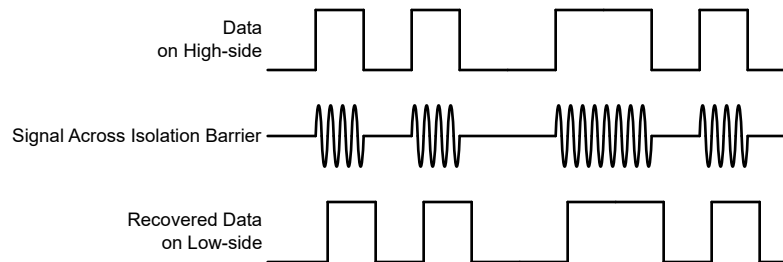

Figure 6-4. OOK-Based Modulation Scheme
The AMC21C12 uses an on-off keying (OOK) modulation scheme, as shown in Figure 6-4, to transmit the comparator output states across the SiO₂-based isolation barrier. The transmit driver (TX) shown in the Functional Block Diagram transmits an internally-generated, high-frequency carrier across the isolation barrier to represent a digital *one* and does not send a signal to represent a digital *zero*.